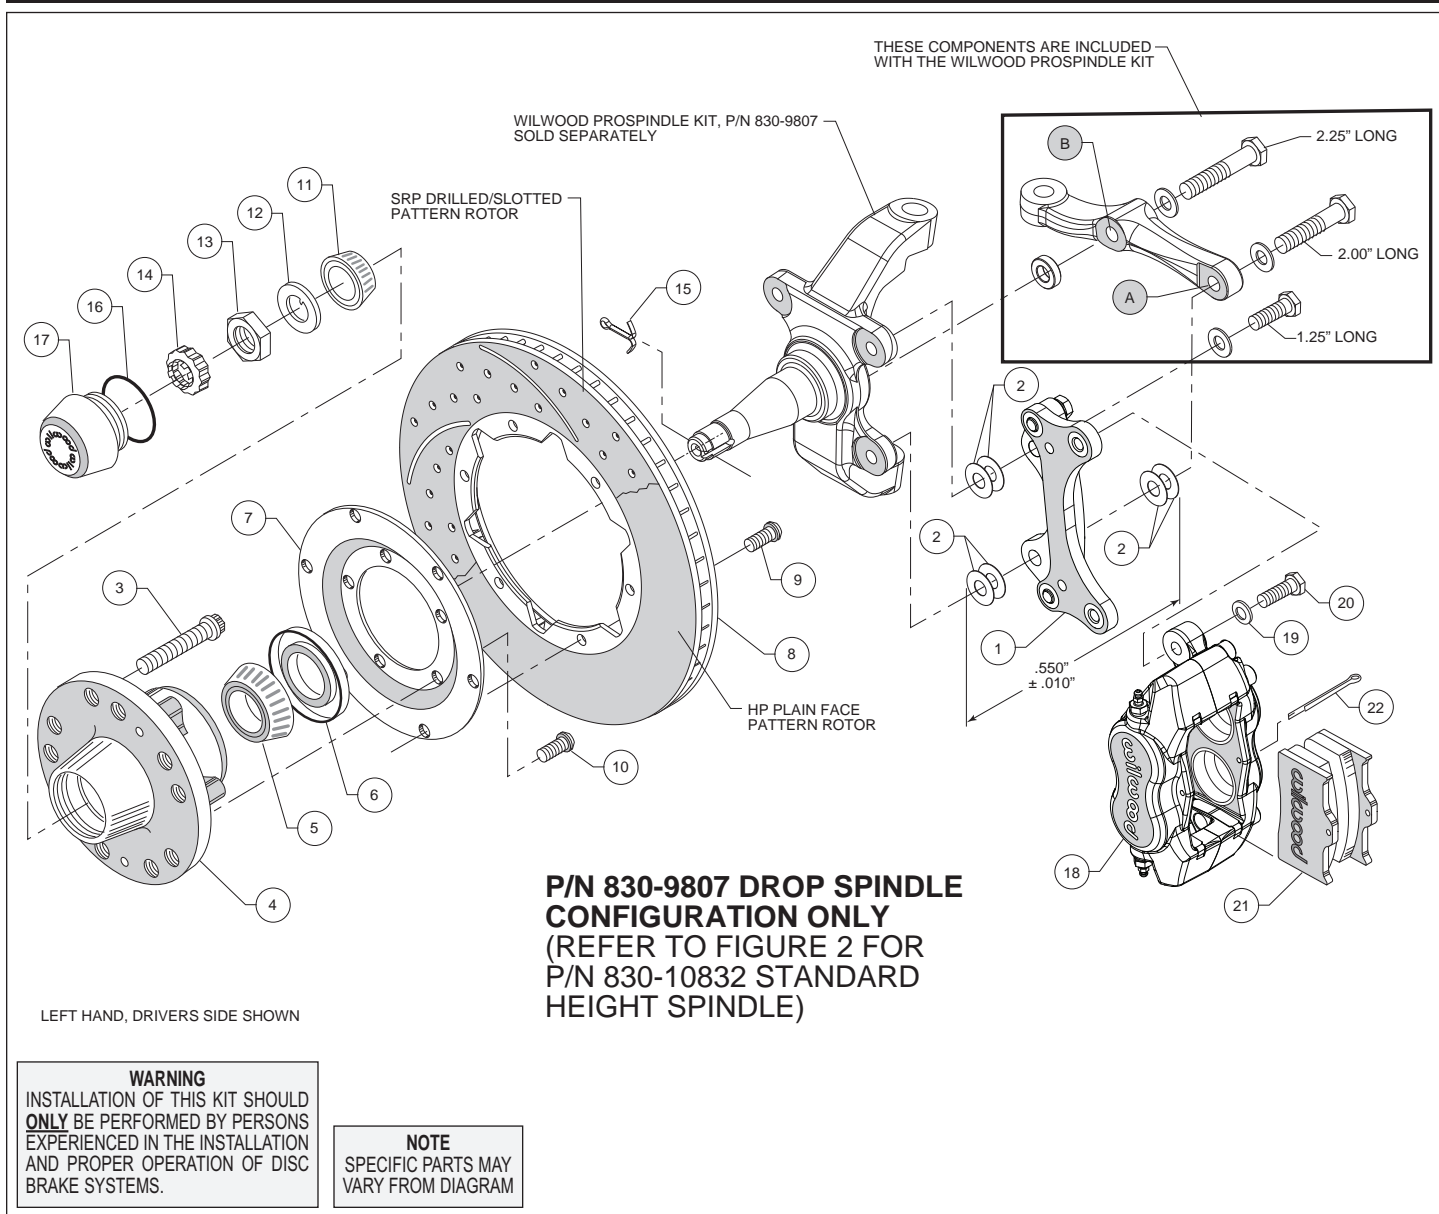

Figure 1. Installation Configuration For Drop Spindle, P/N 830-9807
Assembly Instructions (numbers in parenthesis refer to the parts list and Figures 1 and 2 on the preceding pages):
•**NOTE:** Each Wilwood ProSpindle kit includes bolts, washers, and a spacer to mount the steering arm and caliper bracket. The various bolts are identified by length in the following instructions and in Figures 1 and 2.
- Orient the bracket as shown in Figure 1 and Photo 1. Install at top spindle hole using 1.25" long bolt and .06" thick washer (from ProSpindle kit), and two .016" thick shims (2) between the bracket and spindle, Figure 1.
- Orient the steering arm, and identify the hole marked 'A', as shown in Figure 1. Install at bottom spindle hole using 2.00" long bolt, .06" thick washer (from ProSpindle kit), two .016" thick shims (2) between the steering arm and the bracket, and another two more .016" thick shims (2) between the bracket and spindle, Figure 1. The bracket is located between the steering arm and spindle. **NOTE:** The bracket and shim washers must add up to a total thickness of .550" ± .010", Figure 1.
- Finish attaching the steering arm through the hole marked 'B', as shown in Figure 1. Install using 2.25" long bolt, .06" thick washer, and .25" thick spacer (all from ProSpindle kit), Figure 1.
- Install wheel studs (3) into the hub (4), Photo 3. Torque to 77 ft-lb. **NOTE: There are two lug patterns of five holes each in the hub (5 x 4.50 and 5 x 4.75).** Make sure of the correct hole pattern for the wheel application before installing the studs into the hub.
- Pack the large inner bearing cone (5) with high temperature disc brake bearing grease (available from your local auto parts store) and install into the backside of the hub (4), Photo 4.
- Install the grease seal (6) by pressing into the backside of the hub (4), flush with the end of the hub, Photo 4.
- Orient the rotor (8) and the rotor adapter (7) as shown in Figure 1 or 2 and Photo 5. Attach the rotor to the adapter using bolts (9). Using an alternating sequence, apply red *Loctite*® 271 to the threads, and torque to 25 ft-lb.
- Mount the adapter/rotor assembly (7 and 8) to the hub (4) using bolts (10), as shown in Figure 1 or 2 and Photo 6. Using an alternating sequence, apply red *Loctite*® 271 to the threads, and torque to 45 ft-lb.
- Pack the small outer bearing cone (11) with high temperature disc brake bearing grease and install into front of hub (4). Slide the hub assembly onto the spindle. Secure using spindle washer (12) and spindle nut (13), Photo 7. Bearing adjustment: Tighten the nut while turning the hub. When there is a slight bind on the bearings, they are seated correctly. Back the nut off about 1/6 to 1/4 of a turn, or sufficiently to allow .001" to .007" end play. **WARNING: Failure to back off adjusting nut could cause bearing to run hot and be**
- Screw dust cap (17) into hub (4), Photo 8. Friction created by the o-ring (16) on the dust cap keeps it from unscrewing.
- NOTE:** Please reference the caution statement at the beginning of the assembly instructions. Mount the caliper (18) onto the caliper mounting bracket (1) using bolts (20) and washers (19), as shown in Figure 1 or 2. Temporarily tighten the mounting bolts and view the rotor (8) through the top opening of the caliper. The rotor should be centered in the caliper, Photo 9. If not, proceed as follows:
- Adjust by adding or subtracting shims (2) between the bracket and the spindle. Always use the same amount of shims on each of the two bolts between bracket and spindle.
- For the lower bracket mount bolt, if a shim was added between the bracket and spindle, then a shim must be removed between the steering arm and bracket, such that the total thickness of bracket and shims remain equal to $.550 \pm .010$ ", Figure 1.